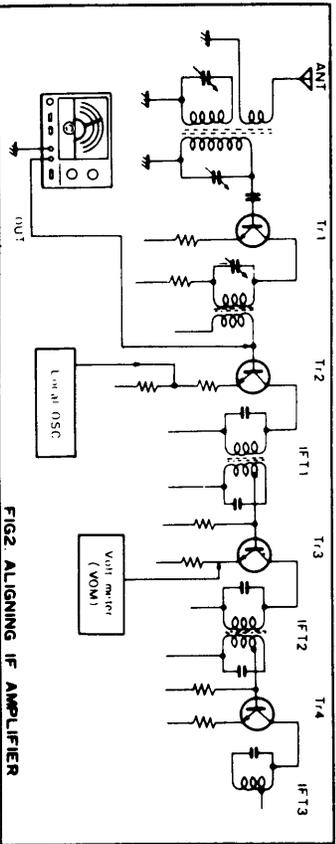

FIG2. ALIGNING IF AMPLIFIER
- 1. Aligning IF Transformers.** Set the 2050 to 455 KHz, the intermediate frequency of the AM receiver to be aligned, and connect the 2050 to the base of Transistor Tr2, a mixer (See Fig. 2). The local oscillator must be kept inoperative during this adjustment. To make it inoperative, shunt the base of the local oscillator transistor or the tank circuit to ground.